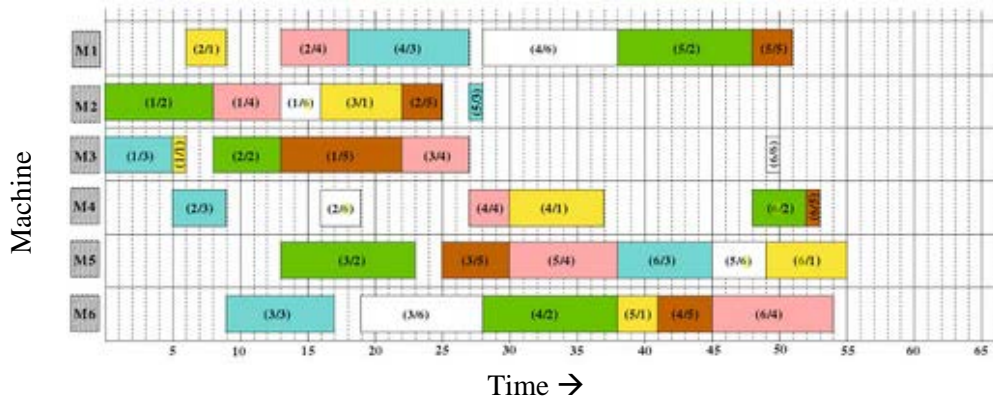

Fig. 1: Gantt-Chart of the optimal schedule with makespan objective.
The typical output of a JSSP is a **Gantt-Chart presenting the schedule** (allocation of shared resources over time to competing activities) optimizing one or several objectives. Fig. 1 presents an optimal schedule of the JSSP (Table 1) based on the minimum *makespan* objective.
In this project, you need to **minimize makespan** for the JSSP using BA and ACO. Along with presenting the optimal values for makespan, **you need to plot the Gantt-Chart targeting makespan** (as in Fig. 1). To test your code, we uploaded 06 benchmark JSSP instances with acceptable values. **The description of input files is also included in the test data.**
- (1) For each of the two algorithms, you need to run 03 (three) JSSP instances. For each of the JSSP instance, you must **present the obtained schedule using a Gantt-Chart** that will clearly present the assignment of each operation to each machine as well as the processing time, for example Fig. 1. (15p = 2 x 2.5 x 3)
(2) Explanation (3p)